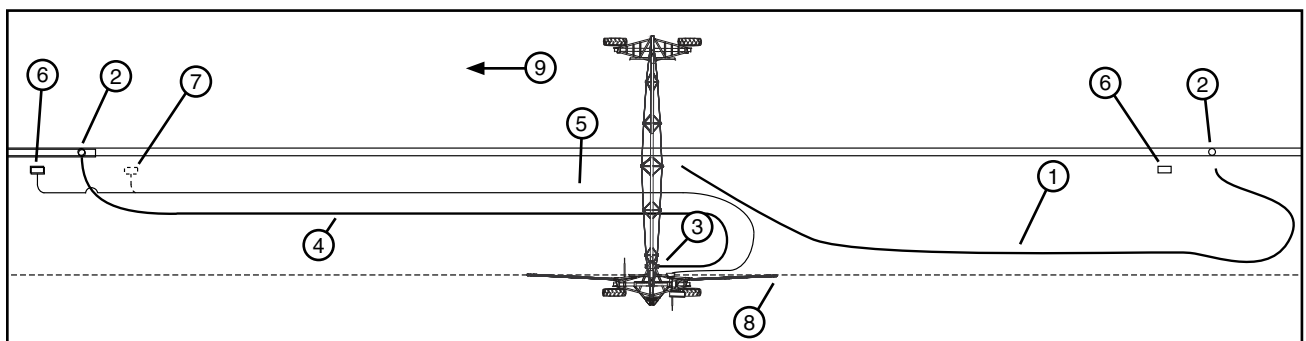

Figure 53-2 1. First Hose 4. Second hose 7. Alternate Power Pedestal and Electric Cord Position
22. Disconnect the first hose from the shut off valve so that water from the hose drains away from the cart path. Then unlatch and disconnect first hose from tee inlet. See figure 53-2.
23. With second hose connected to shut off valve, position second hose, connect to tee inlet and latch in place. Reposition the end of field/hose stop for the length of the second hose being used. See figure 53-2.
- Position the electric cord far enough away from the hose and furrow guidance skid, so that the hose or furrow guidance skid will not drag over it. When applicable, prevent interference between the electric cord and hose by positioning the electric cord over the top of hose. See figure 53-2.